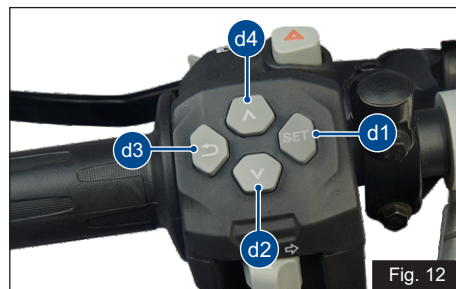

Fig. 12
D) Control switches (ref. Fig. 12)
(d1) SET button (ref. Fig. 12)
(d2) DOWN button (ref. Fig. 12)
(d3) RETURN button (ref. Fig. 12)
(d4) UP button (ref. Fig. 12)